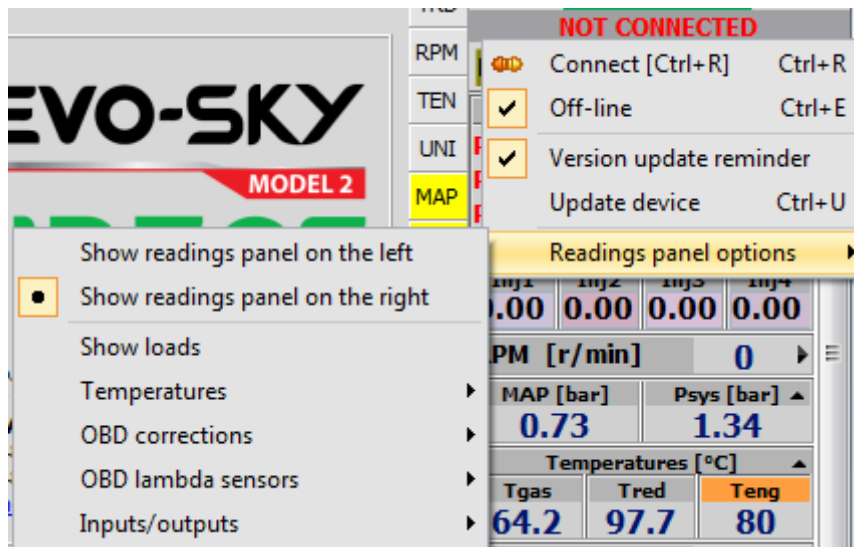

Fig. 2.6 Readings panel options
- **Program status bar** – located under a virtual panel a bar showing the program status, e.g.: NOT CONNECTED, controller connection, off-line operation, performing an update, detection of an older version of the program on a PC or the controller software, device blocked. Under the right mouse button, a menu appears with the options as on Fig. 2.6.